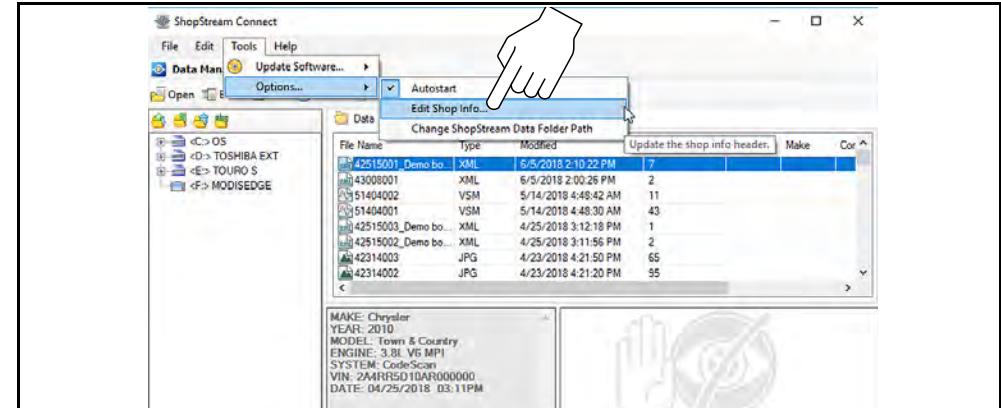

Figure 15-9
1. From ShopStream Connect, select **Tools > Options > Edit Shop Info** (Figure 15-9).